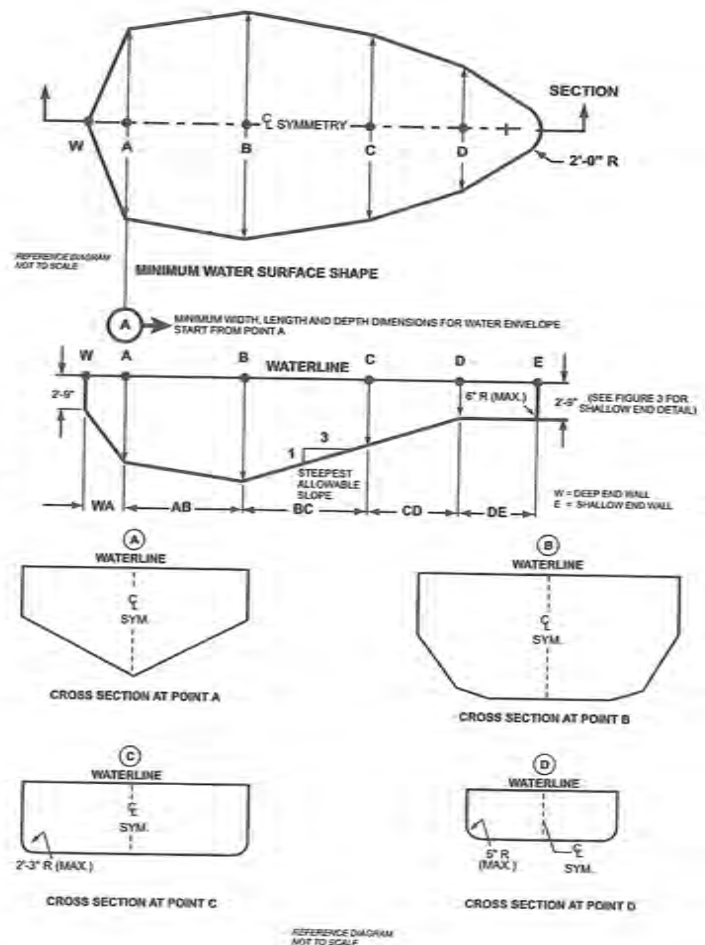

Figure 3 - Minimum water envelope
- Figure 3 drawings are not to scale. (For pool types, see Glossary.)
5.3.3 The walls of Type I pool, when defining the minimum diving water envelope, shall be plumb or outside of Type 1 water geometry. (See figure 3, table 1.)
5.8.2.1 Diving equipment installation and use instructions shall be provided by the diving equipment manufacturer and shall specify the minimum water dimensions required for each diving board and diving stand combination. They may refer to the water envelopes type of their choice by dimensionally relating their products to Point A on the water envelopes as shown in figure 3 and table 1, 5.9.1 through 5.9.3.
5.9 Figure 3 contains suggested drawing and diagrams for minimum water envelope for swimming pools designated type I - V. Individual pool types are shown in figure 3 and table 1.
5.9.1.2 Point A as shown in figure 3 and table 1 shall be the reference point of origin for all dimensions defining the minimum water envelope.